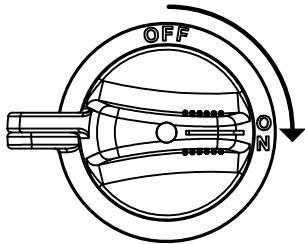

Figure 39. Battery Switch (ON)
2. Place the **Battery switch** (Figure 39) in the **ON** position.